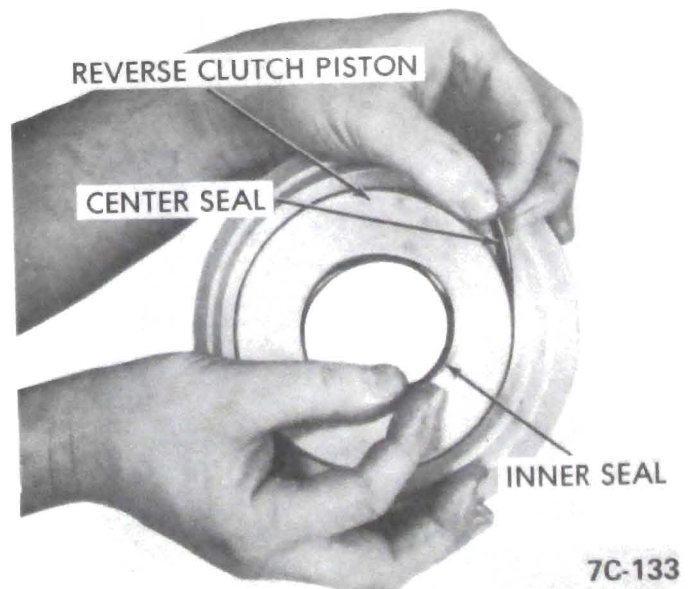

Figure 7C-74
2. Remove low and reverse clutch piston center and inner seal. See Figure 7C-74.